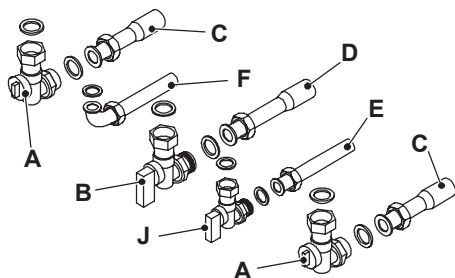

Fig. 6.3
- Fix the c.h. valves A and gas cock B ($\frac{3}{4}$ ") to the boiler using the $\frac{3}{4}$ " gaskets (Fig. 6.3).